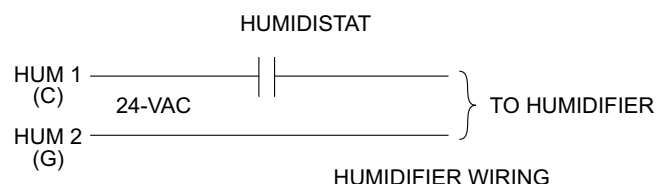
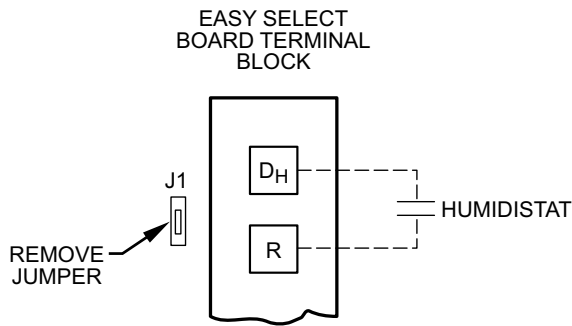

Fig. 22 – Humidifier Wiring
Fig. 23 – Humidistat Wiring for De-Humidify Mode
Easy Select Board terminals HUM1 and HUM2 are provided for direct connection to the low-voltage control of a humidifier through a standard humidistat (Fig. 22). These terminals are energized with 24VAC when G thermostat signal is present (Fig. 23). Alternately, the 24VAC signal may be sourced from the W and C terminal block connections when electric heaters are used as primary heating source.
Latent capacities for systems using the Fan Coil are better than average systems. If increased latent capacity is an application requirement, the field wiring terminal block provides connection terminals for use of a standard humidistat. The Fan Coil will detect the humidistat contacts opening on increasing humidity and reduce its airflow to approximately 80% of nominal cooling mode airflow. This reduction will increase the system latent capacity until the humidity falls to a level which causes the humidistat to close its contacts. When the contacts close, the airflow will return to 100% of the selected cooling airflow. To activate this mode, remove Jumper J1 and wire in a standard humidistat (Fig. 23).
5. Verify low-voltage control signals to motor. The motor receives its control signals through the 12-pin plug (PL-1) on Easy Select Board and 16-pin plug on wiring harness (see Troubleshooting Example). The combinations of pins energized will determine motor speed (Fig. 23). See (Fig. 20) for circuit board, low-voltage screw terminals energized and for voltage present at each pin on 12-pin plug (PL-1). See (Fig. 20) for pin number on 16-pin plug which should have voltage when Easy Select Board screw terminals have 24VAC.